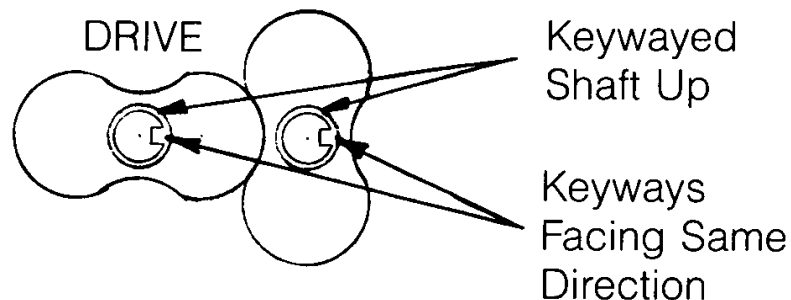

Figure 11
- 3) Stand rotors (1) on arbor press table with gear end shafts up. See Figure 11. Two keyways should point in the same directions, to the right.